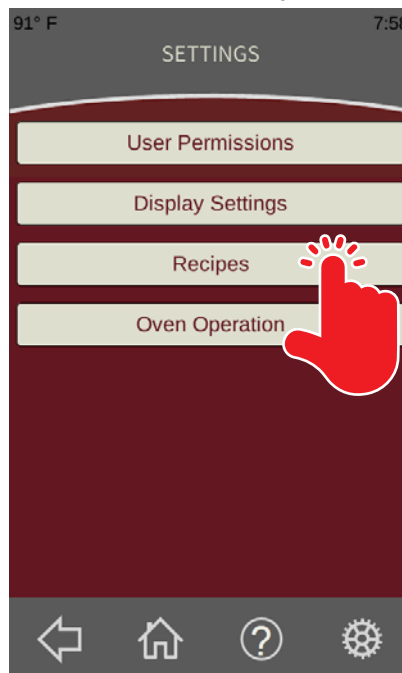

Fig. 60
1. From the **Settings Screen** (Fig. 60) touch the Recipes button (Fig. 60). The **Recipes Settings Screen** should be displayed.